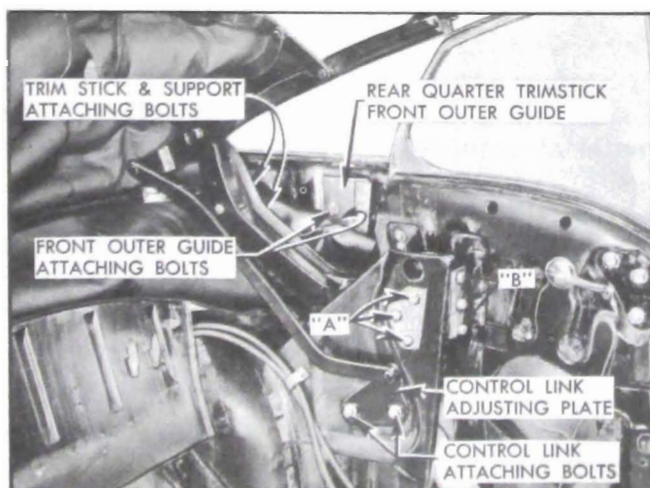

Figure 13-96—Convertible Top Adjustments (Series 40-60)
- (b) Loosen bolts securing control link adjusting plate indicated in Figures 13-96 or 13-97; then without any change in the fore or aft location of the plate, skip over serrations and position adjusting plate downward as required to eliminate the sag in the side roof rail.
- (a) Loosen three male hinge attaching bolts "A" figure 13-96.
(b) Loosen attaching bolt "B" figure 13-96. In addition to bolts, support is secured firmly in place by serrations on contacting surfaces of support and brace.